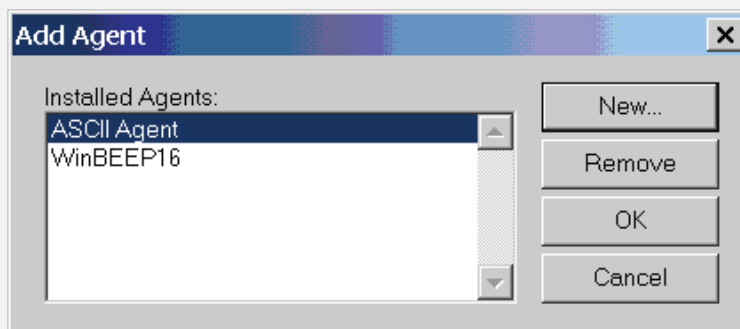

FIGURE 15-13. ADDING AGENT
2. Select the **ASCII Agent** from the Installed Agents list and click on the **OK** button to proceed. Figure 15-13.